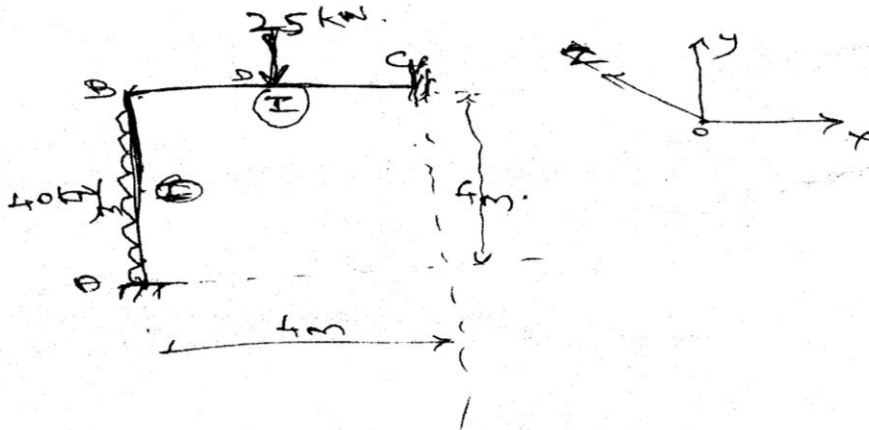

Figure-10
10. Analyze the L bend grid shown in figure-10 by matrix stiffness method. EI is constant for all the members. A uniformly distributed load of 40 kN/m acts on AB and a concentrated load of 25 kN is applied at mid-span of BC . Take $E = 200 \text{ kN/mm}^2$, $G = 80 \text{ kN/mm}^2$, $I = 2 \times 10^{-6} \text{ m}^4$ and $J = 4 \times 10^{-6} \text{ m}^4$.